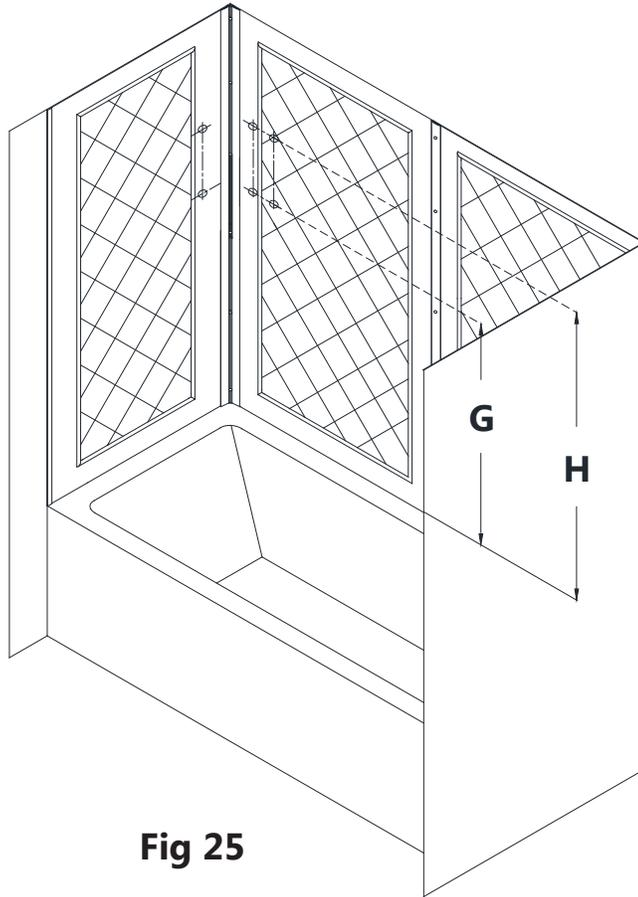

Fig 25
25. Determine the preferred height for the **Glass Shelves (#09)** and mark the locations on the wall. (**Fig 25**)